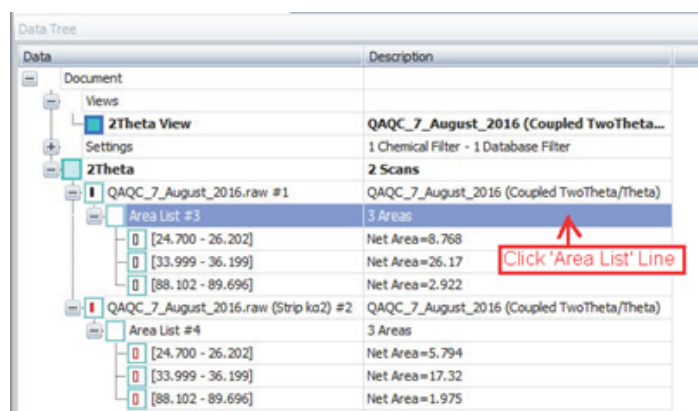

Figure 24. Data Tree panel Scan Area list.
7. Right-click on the "Area List #" subheader for background-subtracted scan and select "Create and Area Column View" (Figure 24). Do the same for the K₂ appended scan. This creates another tab on top with the Area data in column format.